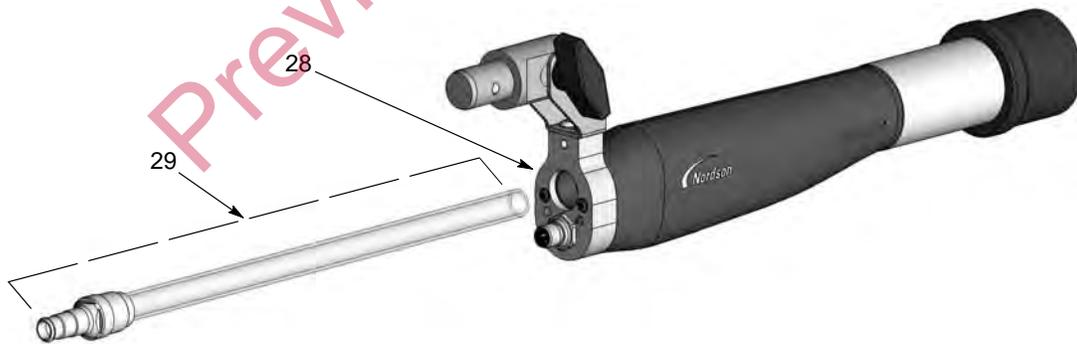

Figure 13 Powder Tube Replacement
19. See Figure 13. Install the powder tube (22) into the adapter (30) with a twisting motion to insert the tube past the internal O-ring until it is fully seated.